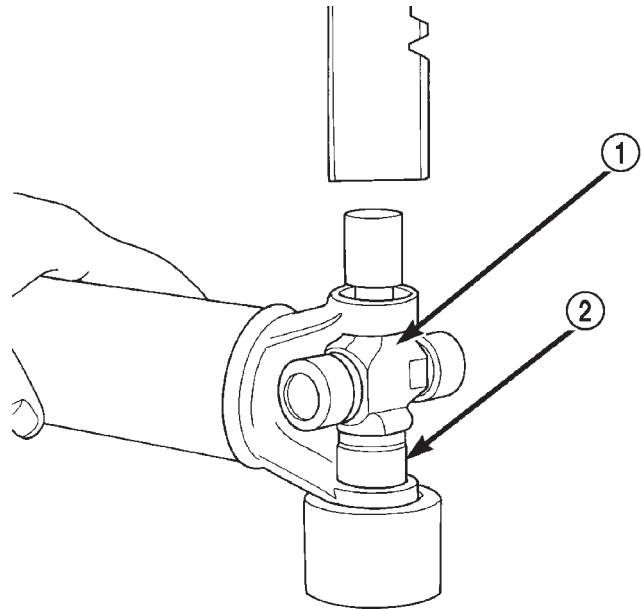

Fig. 20 Press Out Remaining Bearing
(7) If the bearing cap will not pull out of the yoke by hand after pressing, tap the yoke ear near the bearing cap to dislodge the cap.
(8) To remove the opposite bearing cap, turn the yoke over and straighten the cross in the open hole. Then, carefully press the end of the cross until the remaining bearing cap can be removed (Fig. 20).